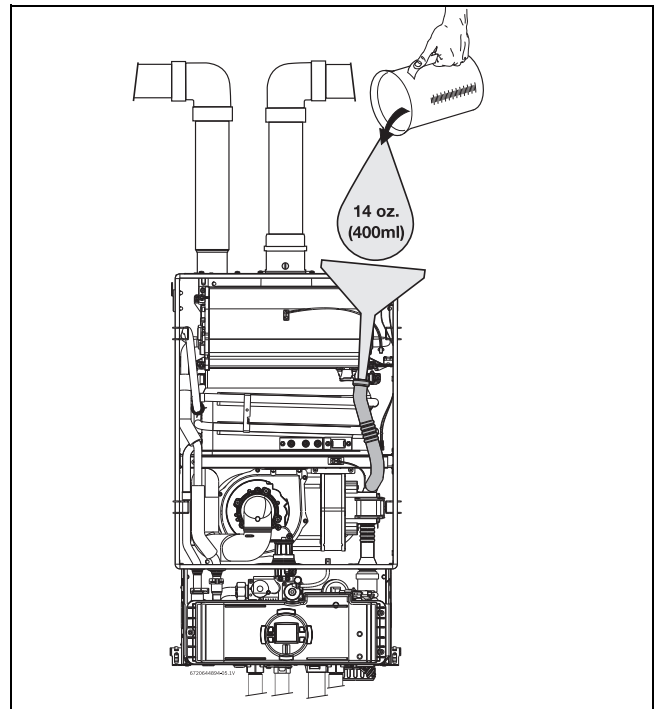

Fig. 40 Filling the condensate trap after installation
- ▶ Fill the condensate trap by pouring approx. 14 oz. (400ml) of water into the top of the drain tube. To avoid damage to the appliance use a funnel in this operation, see fig. 40, page 33.